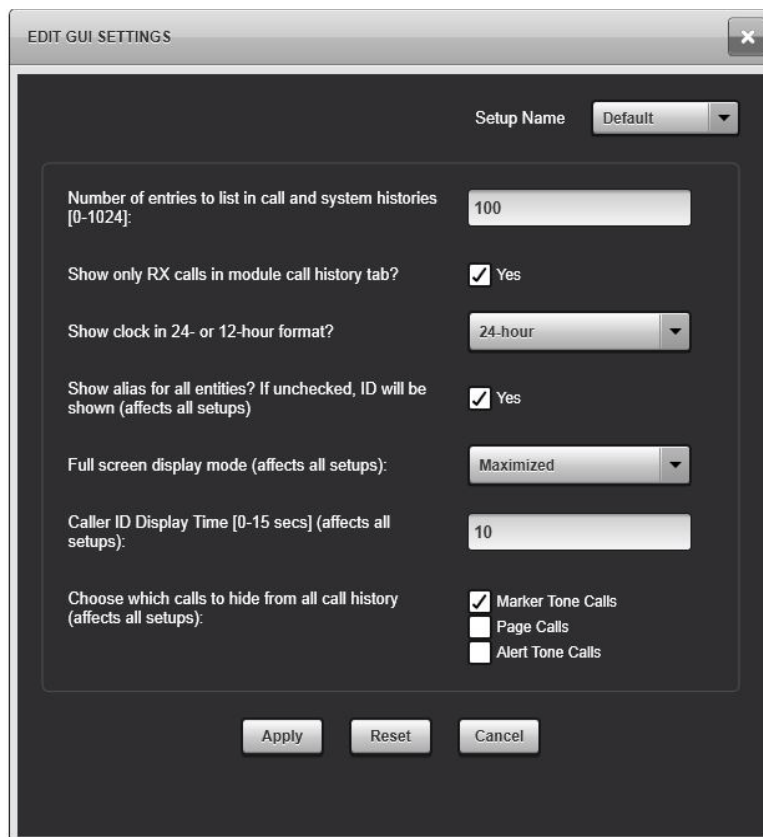

Figure 18-22: Edit GUI Settings
2. Select **Configure** → **GUI Settings**. The **EDIT GUI SETTINGS** dialog opens (Figure 18-22).